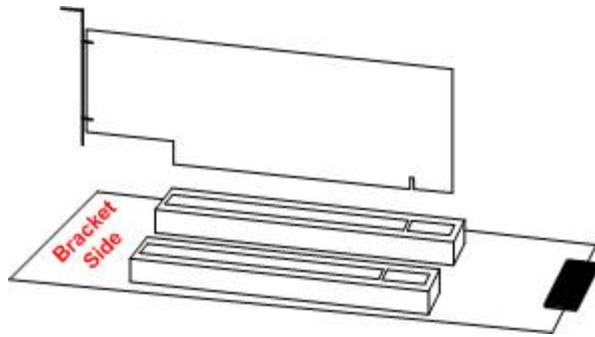

Figure 6: Inserting add-in card into PCI Flex Adapter
- Locate your expansion add-in card such way that its bracket will be on the same side as bracket side of PCI Flex Adapter (opposite from black power Molex connector) (see Figure 6). **CAUTION: If your add-in card has not bracket connected to it, be sure that you properly detect right direction for your add-in card.**